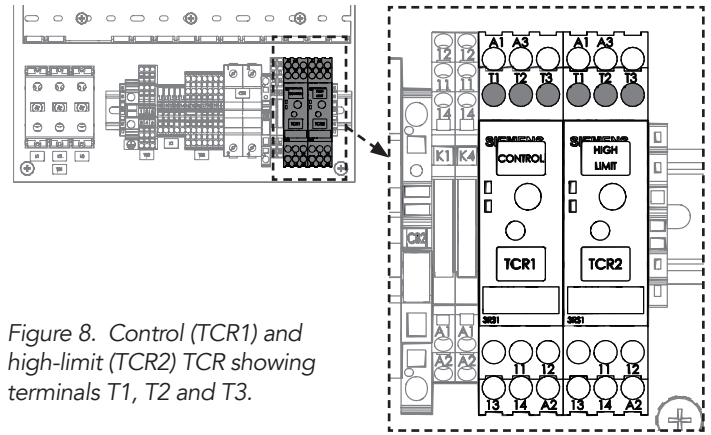

Figure 8. Control (TCR1) and high-limit (TCR2) TCR showing terminals T1, T2 and T3.
3. Using the ohmmeter, measure the resistance between TCR terminals **T1** and **T2** (See Fig. 8):
5. Using the ohmmeter, touch the probes to RTD **pin 1** and **pin 3**. See Fig. 8. Note the resistance. Touch the probes to RTD **pin 1** and **pin 4** to check for continuity: